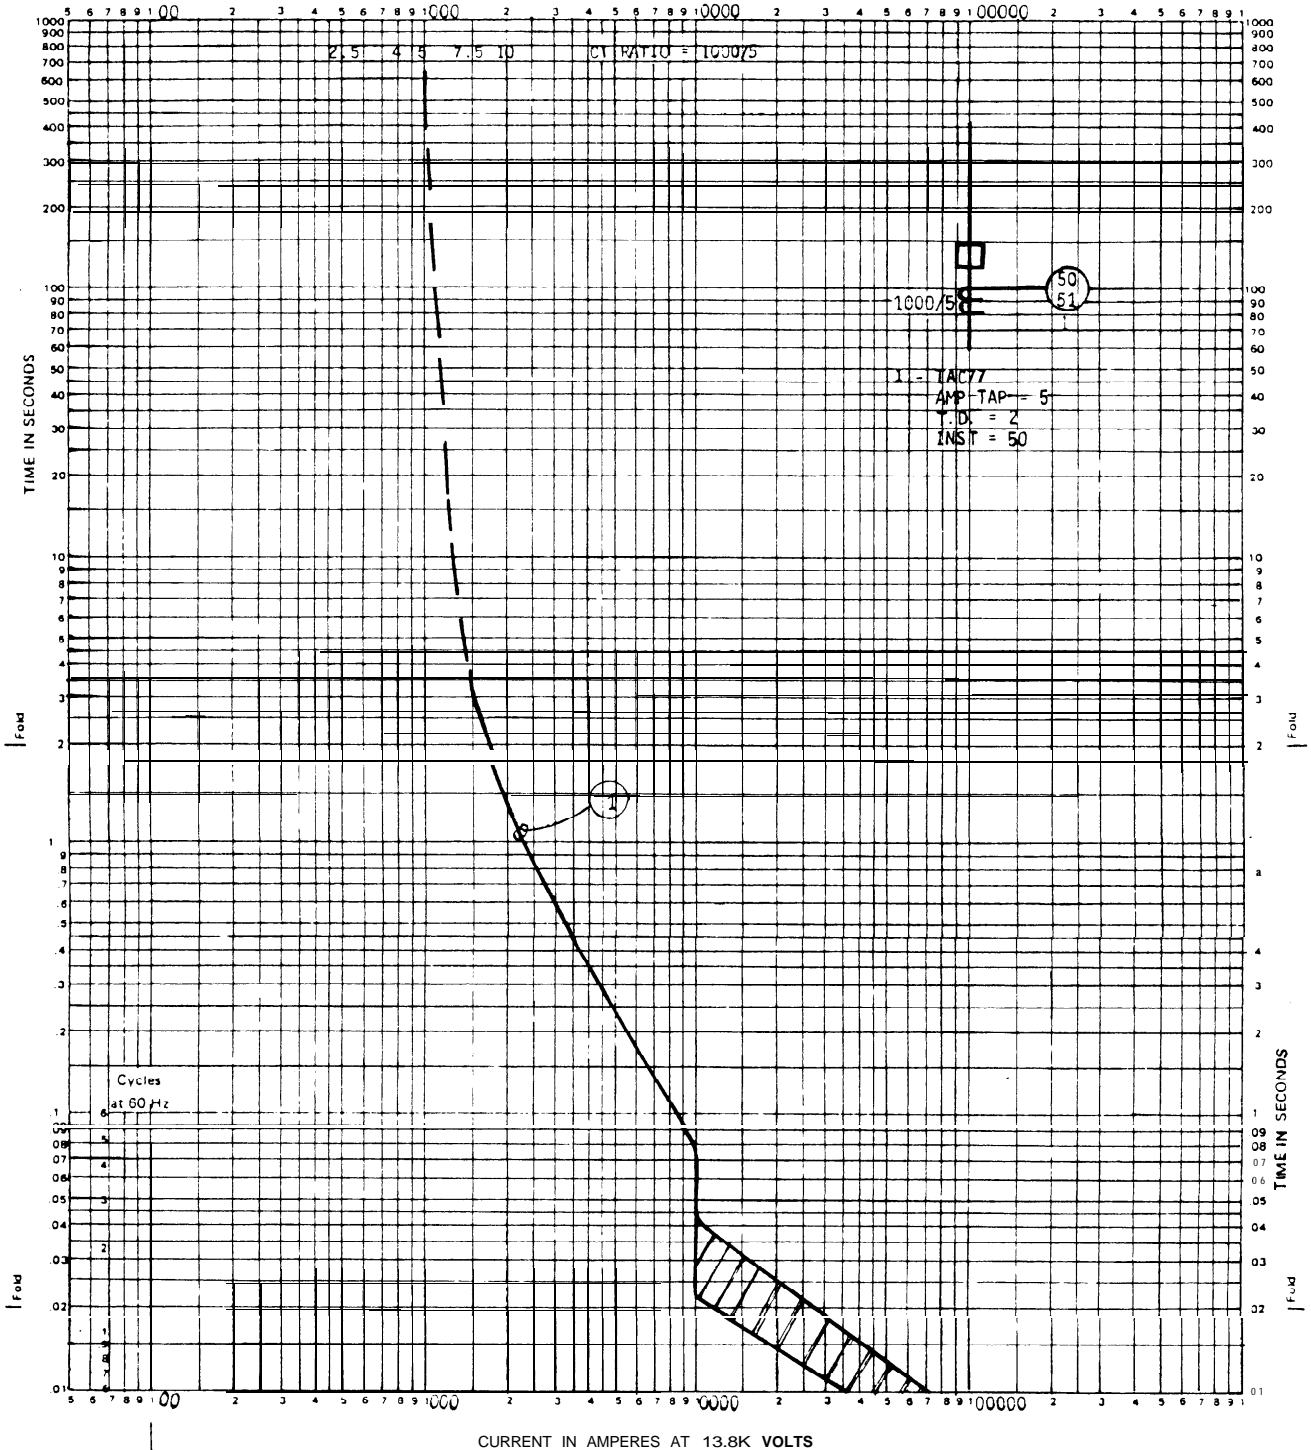

Figure 5-3. Typical time-current characteristic curve.
(2) *Molded-case circuit breakers.* Low current and low energy power circuits are usually controlled by molded-case circuit breakers. The trip elements act directly to release the breaker latch when the current exceeds the calibrated current magnitude. Typical time-current characteristic curves for molded-case circuit breakers are shown in figure 5-3.